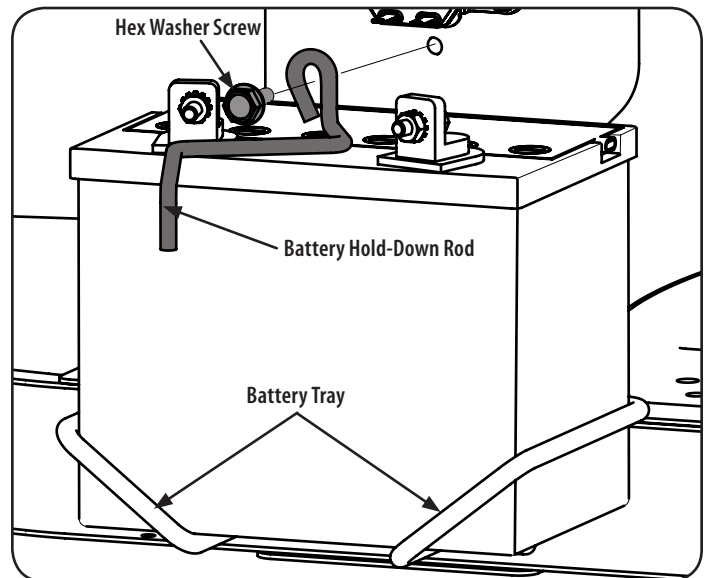

Figure 24
- Remove the hex washer screw securing the battery hold-down rod to the frame. See "Figure 24".
- To re-install the battery, place it back in the battery tray and secure in place with the battery hold-down rod and hex washer screw. See "Figure 24".